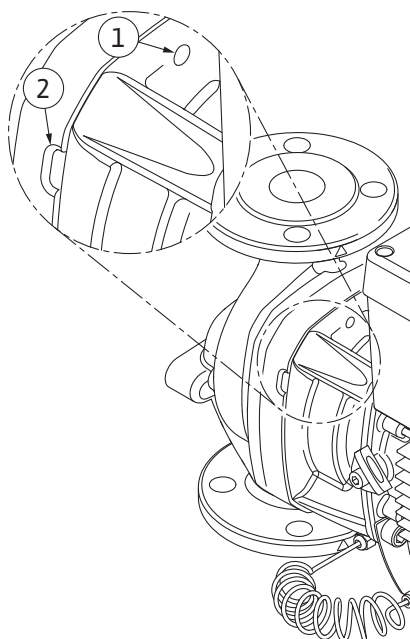

Fig. 104: Threaded holes and slots for pulling the motor impeller unit off the pump housing
12. For pump types (Fig. I and Fig. II) that use two M10 threaded holes (see Fig. 104) and suitable screws are provided by the customer (e.g. M10 x 20 mm). The slots (Fig. 104, Item 2) can also be used for pressing off.